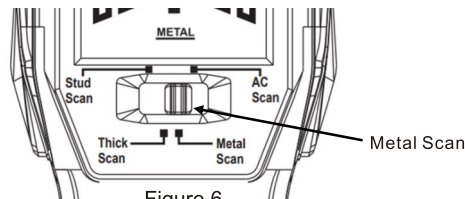

Figure 6
- 1) Selecting detection mode, move switch to Metal Scan (Figure 6)